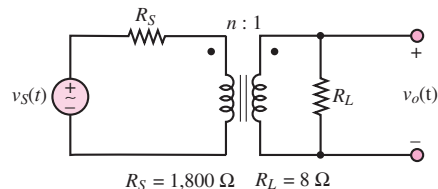

Figure P7.37
**7.37** If the transformer shown in Figure P7.37 is ideal, find the turns ratio  $N = 1/n$  that will provide maximum power transfer to the load.